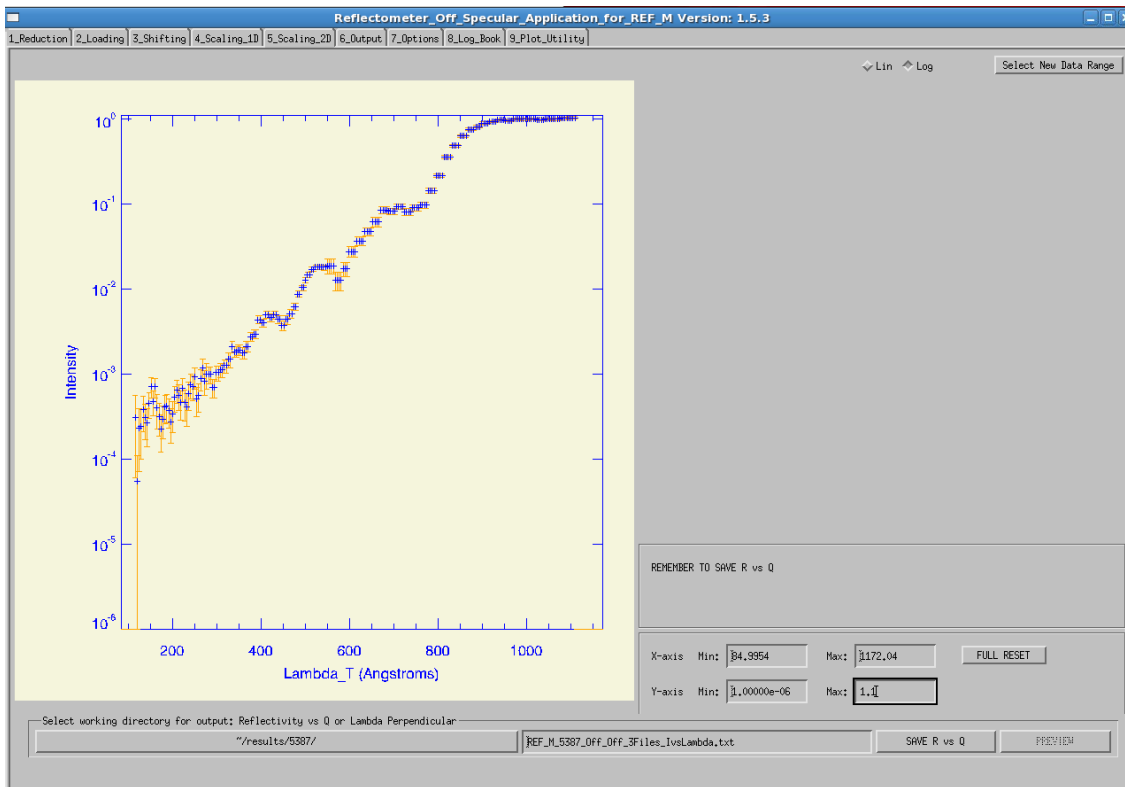
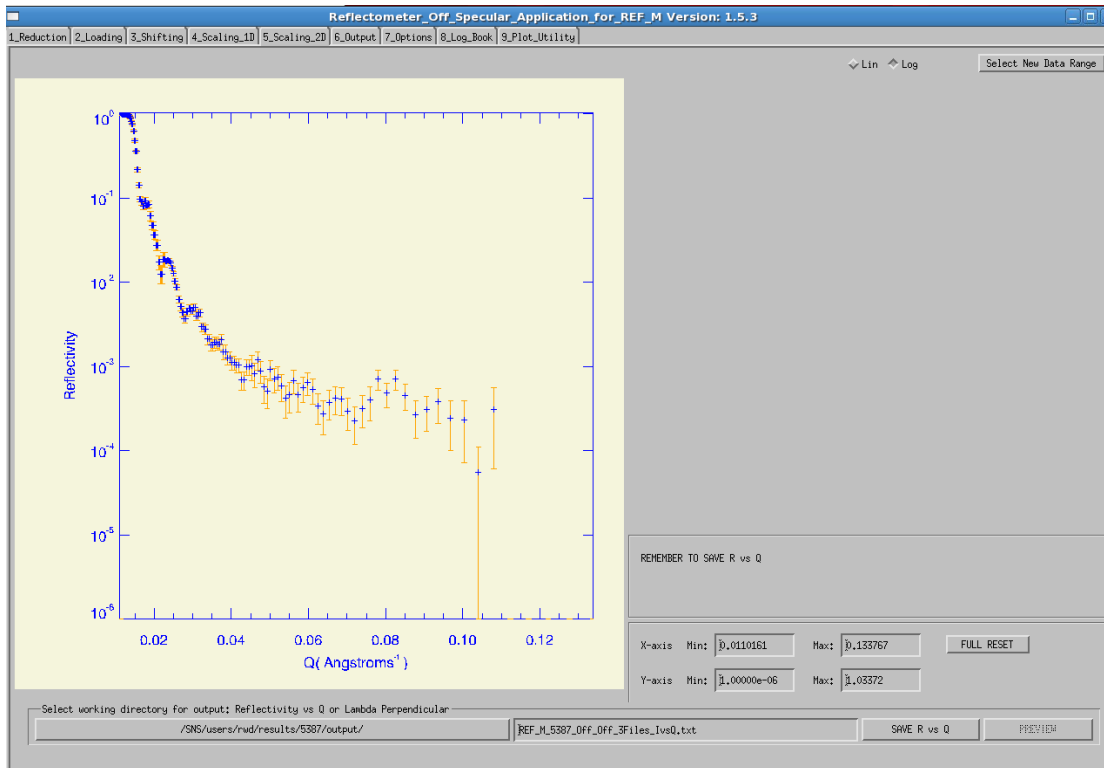
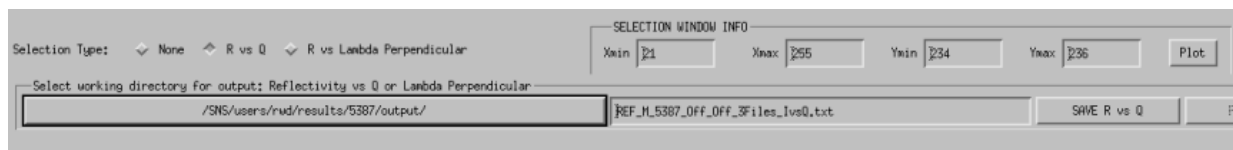

Fig. 26. Reflectivity vs λ perpendicular as plotted in the Scaling_2D step.
Fig. 27. Reflectivity vs Q (\AA^{-1}) as plotted in the Scaling_2D step.
Fig. 28. Detail of selecting output directory for Reflectivity vs Q and Scaled 2D results.
Now the user can plot and save the reflectivity data to the chosen output directory. The user can plot either Reflectivity(R) vs either λ perpendicular or $Q(\text{\AA}^{-1})$. Figure 26 shows the results for R vs λ perpendicular. This plot can be compared to the “SCALED PLOT” produced in Step 4. The user should return to the previous screen by clicking the button **Select New Data Range** in the upper left corner.
On the screen shown in Fig. 25 the user should then select the radio button “R vs Q” in the lower left corner and click **Plot**. The user will then see the plot of reflectivity vs Q as shown in Fig. 27.
After selecting to plot R vs Q, the user should now select a working directory for saving the results. Click on the path bar (which shows `~/results/5387/` in Fig. 26), and select a working directory, e.g. **output**. This directory must be created before running REFoffSpec or, at least, before reaching this point in the program. It is recommended that this directory be different than the one used for the Reduce directory (where RefPix, ROI, and ASCII data files are saved). In addition to a directory in the user’s area, a SHARE directory could be used. The resulting output directory (`~/results/5387/output`) appears in the path bar (see Fig. 27 and details in Fig. 28). The user should then click the button **Save R vs Q** to save the results to the output directory. Note that if reflectivity data are to be saved for the other spin states (e.g., On_Off, etc.) in the Output Step (i.e., Step 6), then data must be saved for the working spin state (e.g., Off_Off) in this step.